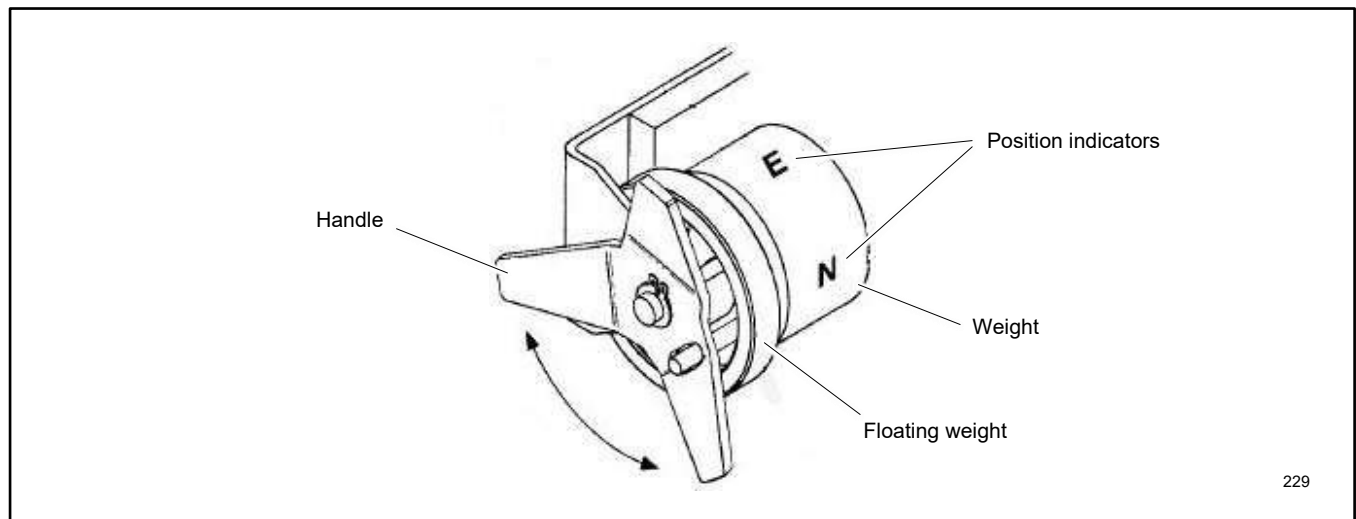

Figure 6 Manual Operation Handle, 30-230 Amp Model KCS
The 30-200 amp standard-transition models have an attached manual operating handle. See Figure 6.
2. To manually operate the transfer switch, turn the attached handle by hand. See Figure 6. The maintenance handle turns in the opposite direction of the weight. It should operate smoothly without any binding. If it does not, check for shipping damage or construction debris.